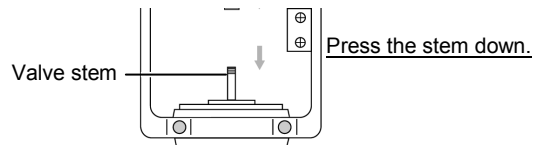

Figure 4. Stem of the valve
2. Push down on the stem of the valve to the lowest position. (See Fig. 4.) (Two-way valve: fully closed, three-way valve: port B fully closed.)